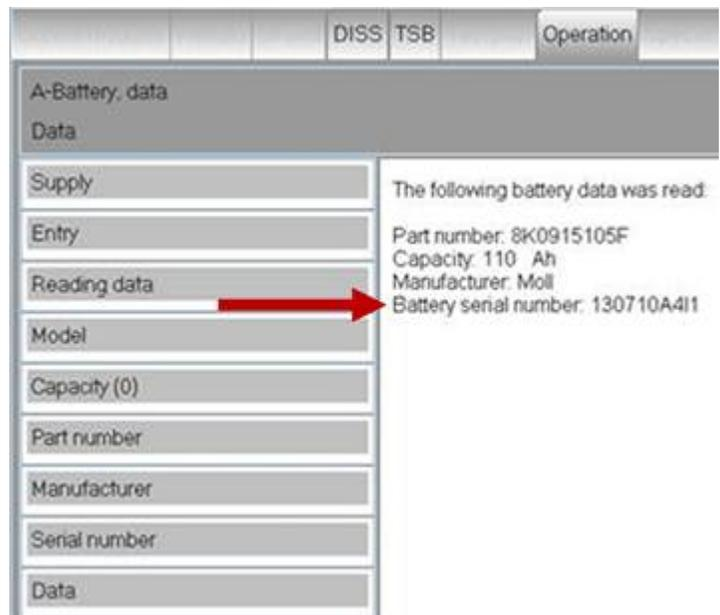

Figure 2. Battery serial number displayed in the scan tool.
2. Verify that the battery serial number displayed in the scan tool (Figure 2) matches the serial number on the battery.